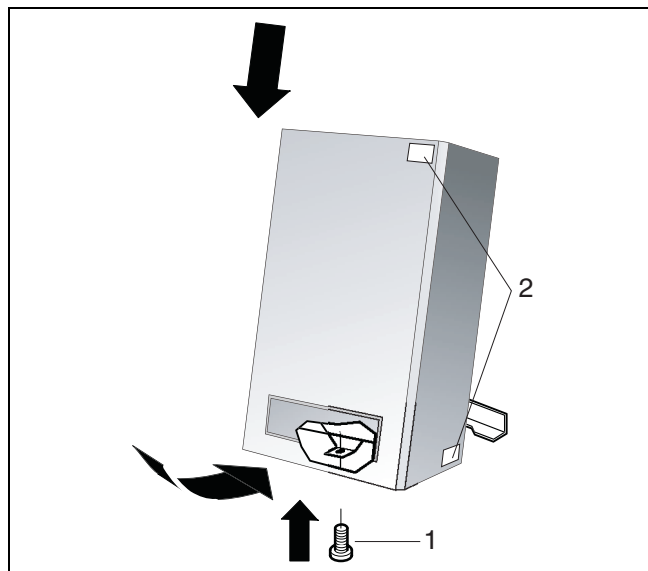

fig. 50 Refit casing and safety screw
- Refit the casing and the safety screw (→ fig. 50, item 1).